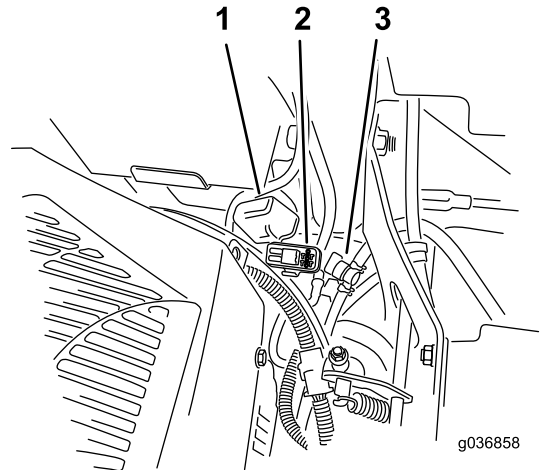

Figure 64
**Note:** For MyRide machines, ensure that the ground cable does not rub against the trailing arm or lower shock mount (Figure 64).
The fuses are located on the right console next to the seat (Figure 64).
2. Install a new fuse (Figure 64).